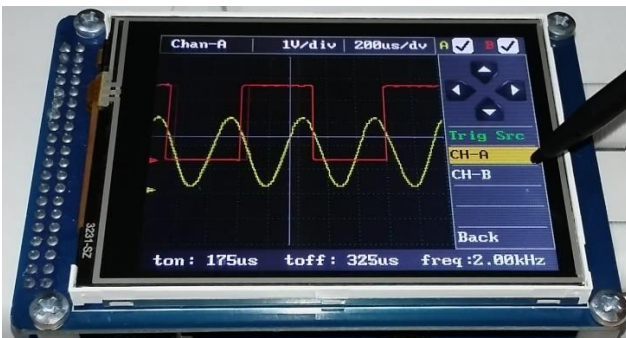
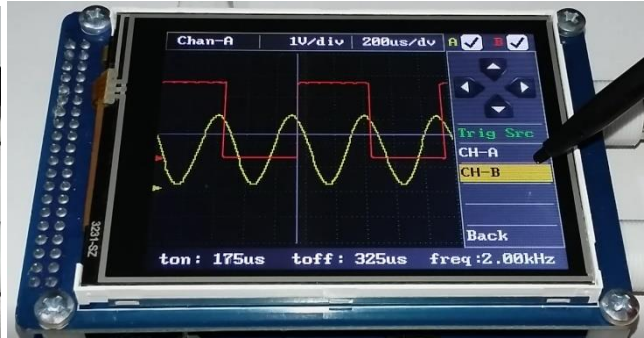

Figure 4a. Triggering setting for channel A.
Figure 4b. Triggering setting for channel B.
In Figure 4a, the trigger source is set to channel A, and interception occurs at the intersection of the horizontal (14) and vertical (15) triggering cursors. Since in Figure 4b, the trigger source is set to channel B interception occurs at channel B.